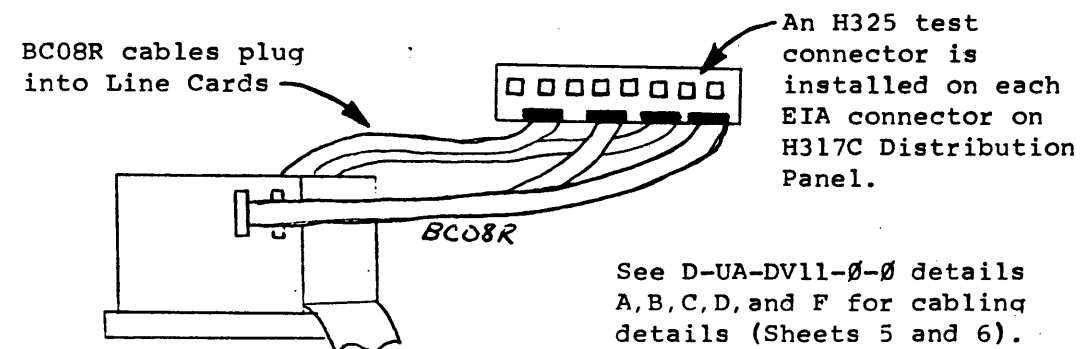

Figure 1- Test Configuration for Acceptance Procedure
4. Remove the H9612 and H861 test connectors and reconfigure the apparatus in accordance with Figure 1.
Note for Figure 1: Only one H317C Distribution Panel is shown. This is sufficient to test two line cards simultaneously. If it is desired to test four at a time, a second H317C panel would be used and eight more H325 connectors.